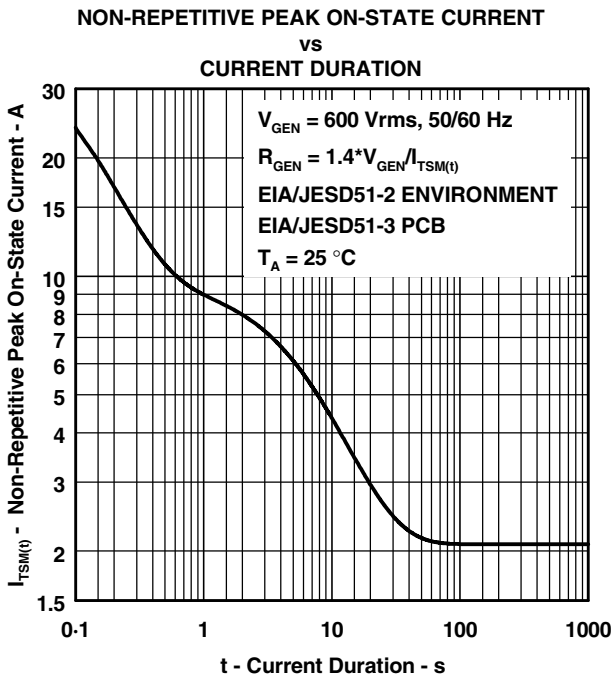

Figure 8.
5. EIA/JESD51-2 environment and EIA/JESD51-3 PCB with standard footprint dimensions connected with 5 A rated printed wiring track widths. See Figure 8 for the current ratings at other durations. Derate current values at  $-0.61\%/\text{C}$  for ambient temperatures above  $25^\circ\text{C}$
The protector can withstand currents applied for times not exceeding those shown in Figure 8. Currents that exceed these times must be terminated or reduced to avoid protector failure. Fuses, PTC (Positive Temperature Coefficient) resistors and fusible resistors are overcurrent protection devices which can be used to reduce the current flow. Protective fuses may range from a few hundred milliamperes to one ampere. In some cases, it may be necessary to add some extra series resistance to prevent the fuse from opening during impulse testing. The current versus time characteristic of the overcurrent protector must be below the line shown in Figure 8. In some cases there may be a further time limit imposed by the test standard (e.g. UL 1459 wiring simulator failure).